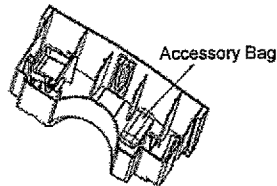

Fig. 3
3. Locate and remove the accessory bag containing the 4 casters (Fig. 3)
3. Empty the bucket and replace the bucket in the dehumidifier. (Fig. 3)